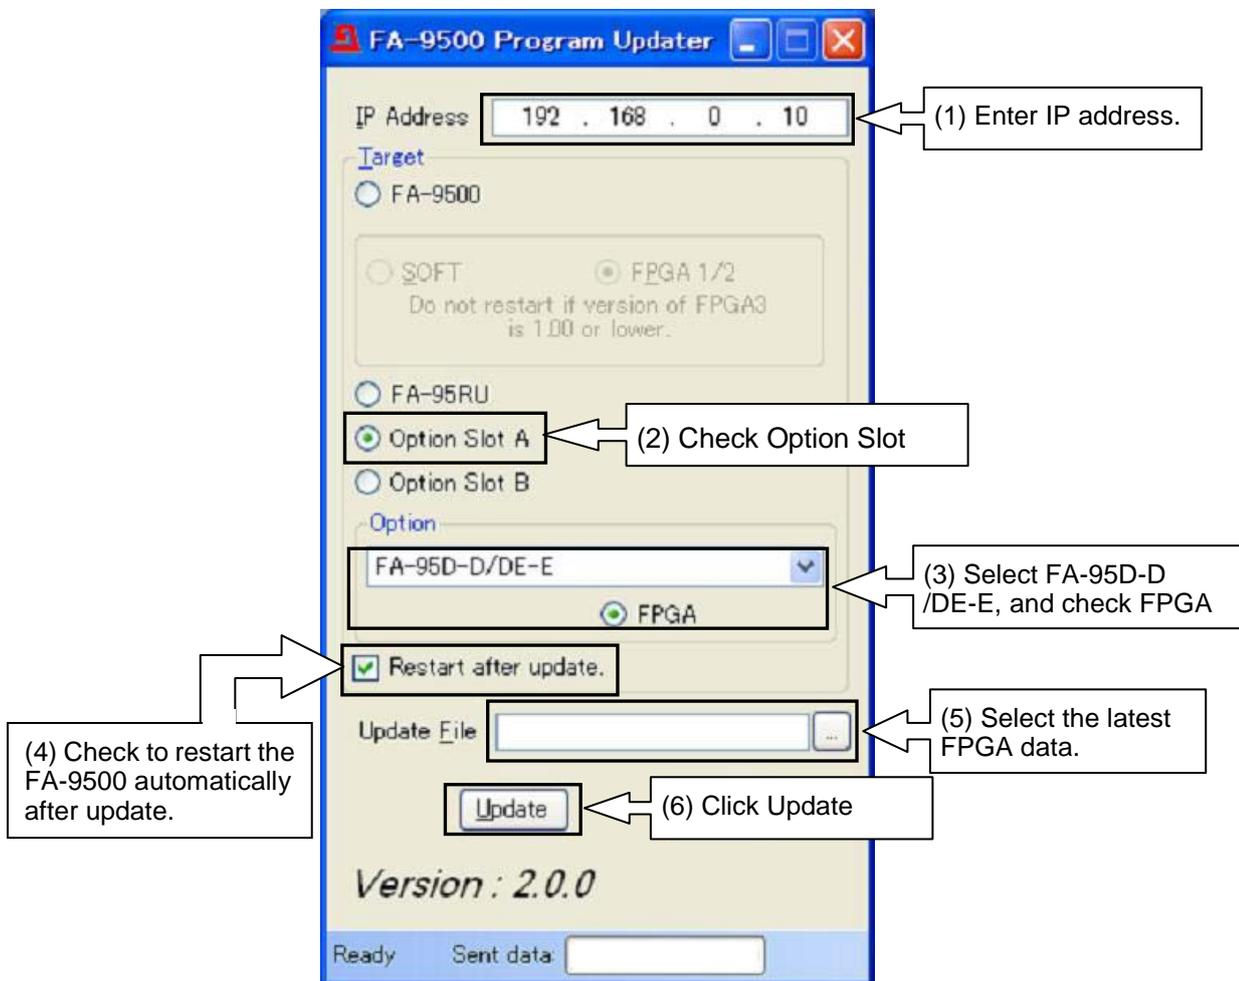

Fig. 19 FA9500ProgramUpdater window for FA-95D-D/DE-E software settings
3. Enter the IP address (default IP address: 192.168.0.10)(Fig. 19.(1)).
4. Check Option Slot A or B in the Target section. (Fig. 19 (2))
5. Select **FA-95D-D/DE-E** under Option, then check **FPGA**. (Fig. 19 (3)) To automatically restart the FA-9500 after update, check **Restart after update**. (Fig. 19 (4))
6. Select the latest FPGA data under **Update File** (Fig. 19 (5)).
7. Click **Update** to start updating (Fig. 19 (6)).